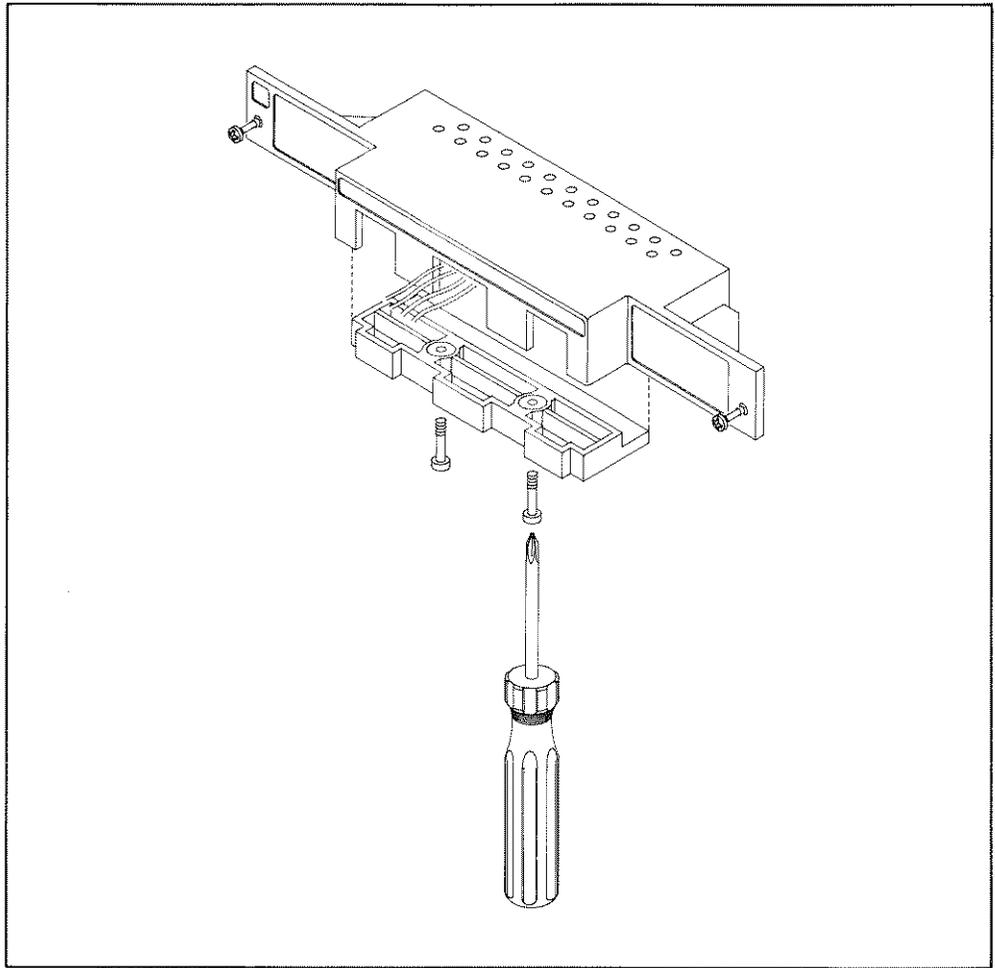

Figure 5-6. Strain Relief Housing/Plate Assy
3. Secure the strain relief plate to the strain relief housing as shown in Figure 5-6. Tighten the screws until the plate is snug against the wires. Do not over-tighten the screws.